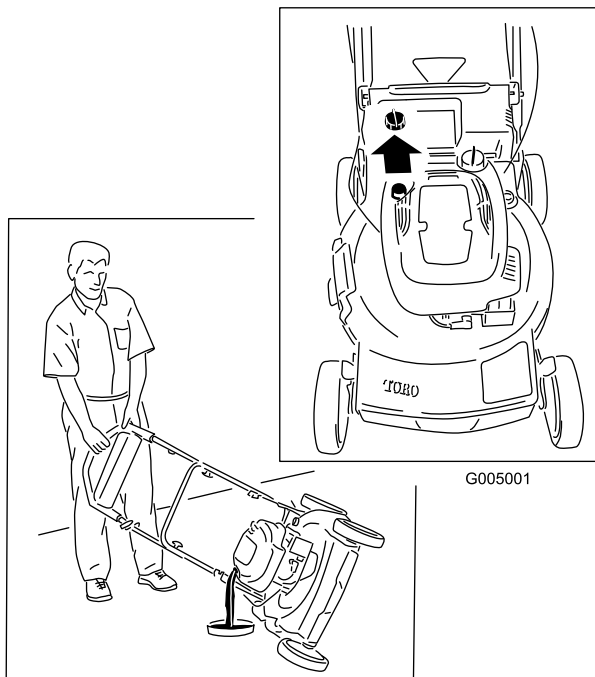

Figure 26
3. Tip the mower onto its side with the air filter up to drain the used oil out through the oil fill tube (Figure 26).